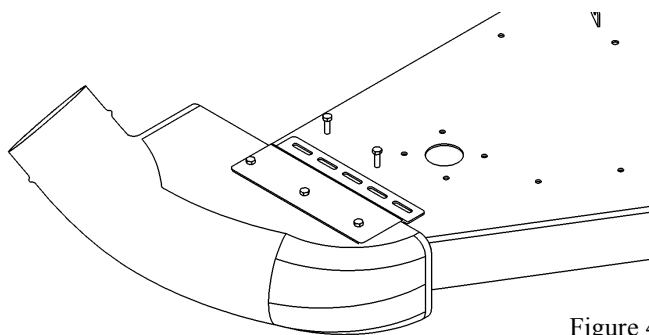

Figure 4
18. Cut boot to fit deck and install to deck. (Figure 4)